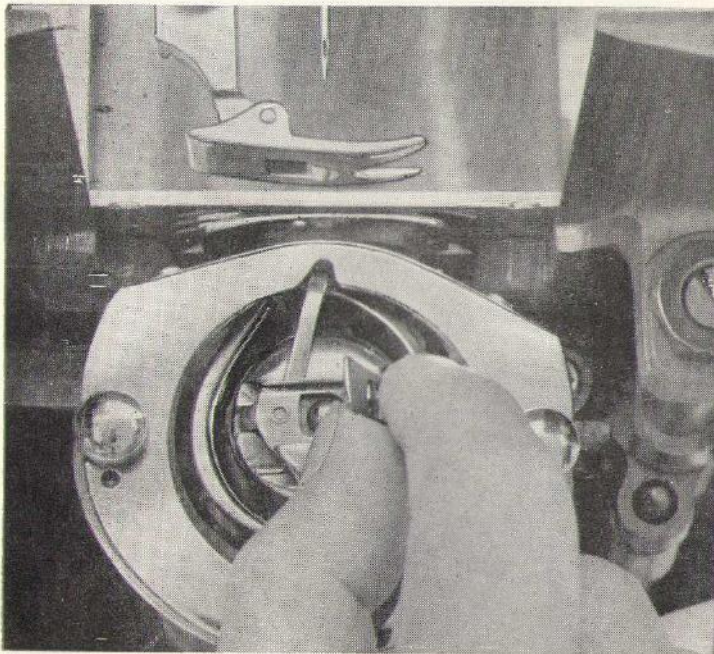

Fig. 7
- 4) With the thumb and forefinger of the left hand, grasp the bobbin case latch with thread coming from the top, slide out the case (Fig. 7).